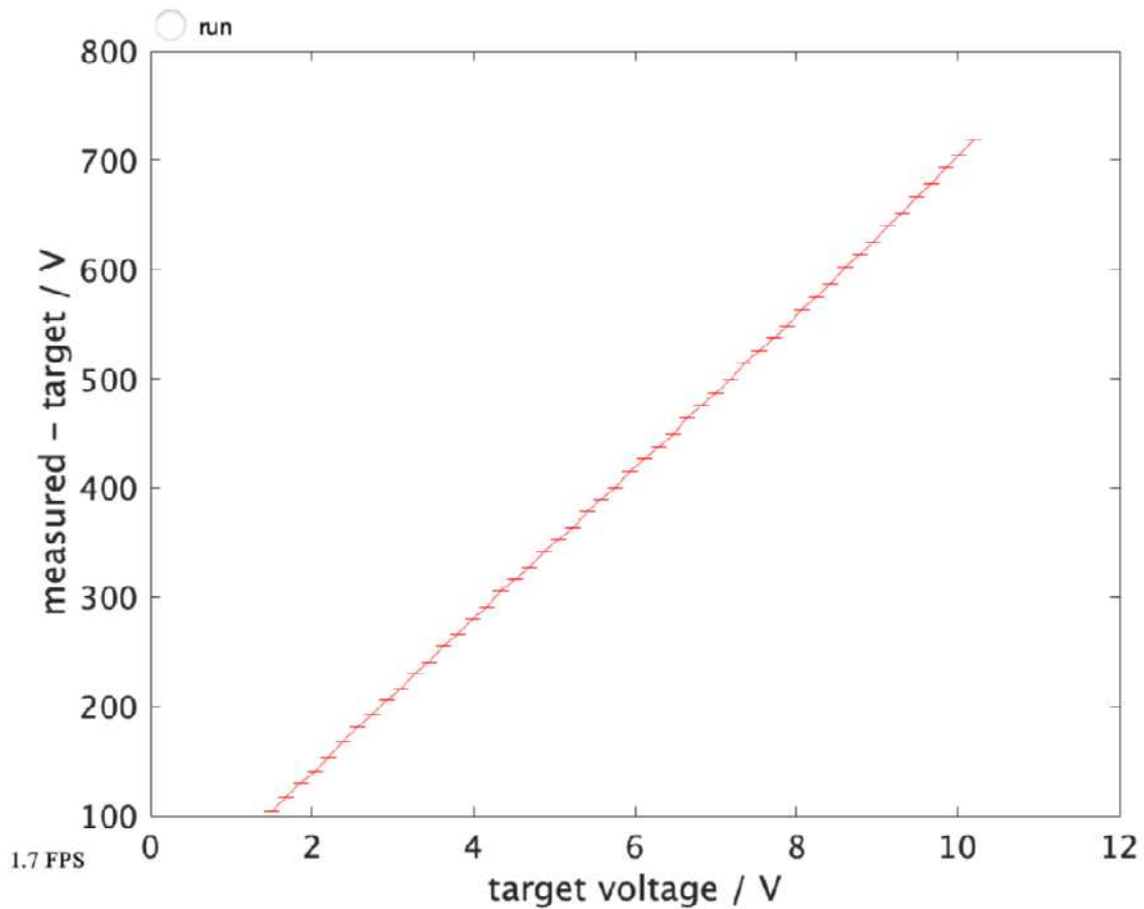

Figure 18. Still bugs ...
2. Understanding a schematic like Fig. 18 without knowing its history, origins, etc. is dauntingly difficult. You have to train yourself to imagine modular boundaries (that you learn to recognize). Just as this sentence would make little sense if read aloud as a sequence of individual letters, looking at the schematic as a hodge-podge of R's, C's, Q's, doesn't make much sense to anyone. The letters are separated by spaces, and good schematics likewise have clues to help you parse the modules. But practice and memorization play key roles in recognizing filters, followers, mirrors, voltage dividers, etc. Good news is that there aren't *that many* building block circuits that are repeated over and over.